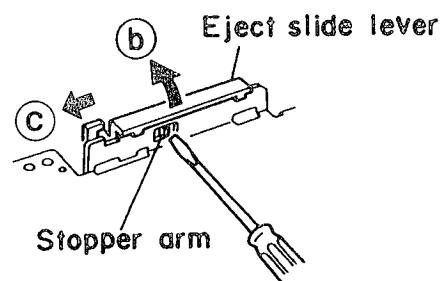

Fig. 2-19
■ Eject slide lever (Fig. 2-19)
1. Place the cassette mechanism back side frontward and disengage the stopper arm ④ of the Eject slide lever by pressing it inwards through the opening of the chassis with a small screwdriver as shown in Fig. 2-19.
2. Disengage the Eject slide lever in the direction of arrow ⑤.